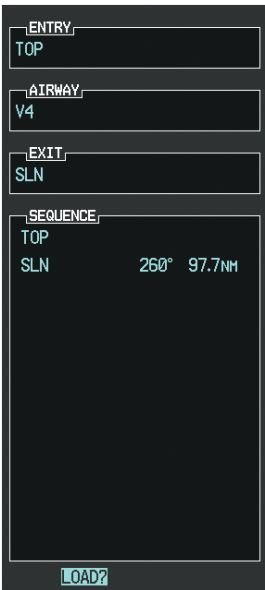

Figure 5-108 Ready to Load V4
- j) Press the **ENT** Key. The selected airway and exit are displayed, and the prompt “LOAD?” highlighted as in Figure 5-108.